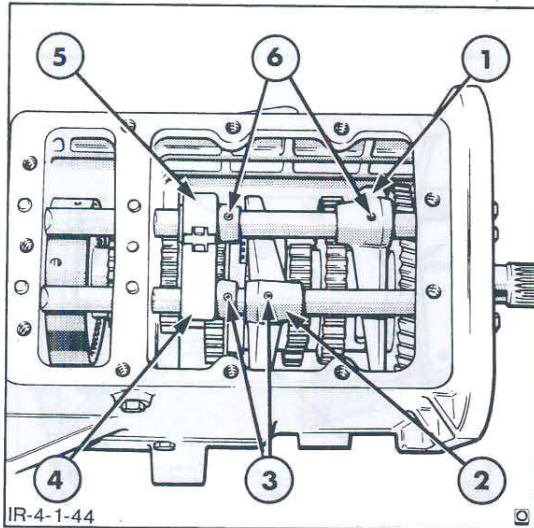

Figure 45
4. Using a suitable pin punch, remove the spring pins retaining the 1st/2nd gearshift gate and the gearshift fork, Figure 45.
6. Using a suitable pin punch remove the spring pins retaining the 3rd/4th gearshift gate and gearshift fork, Figure 45.